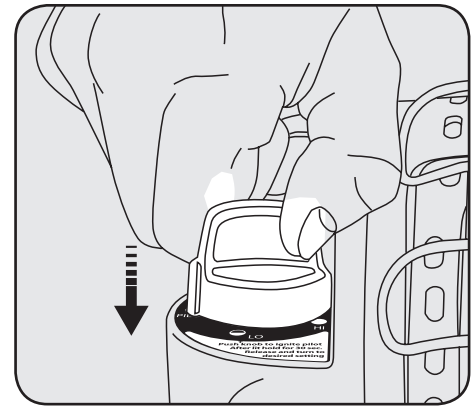

Figure 3
4. Turn Control Knob counterclockwise to "PILOT" position and depress to light. See Figure 3.
6. Turn Control Knob counterclockwise to "PILOT" position and depress to light. See Figure 3 on previous page. This may take longer to purge air from the supply hose depending on the length of the hose being used.